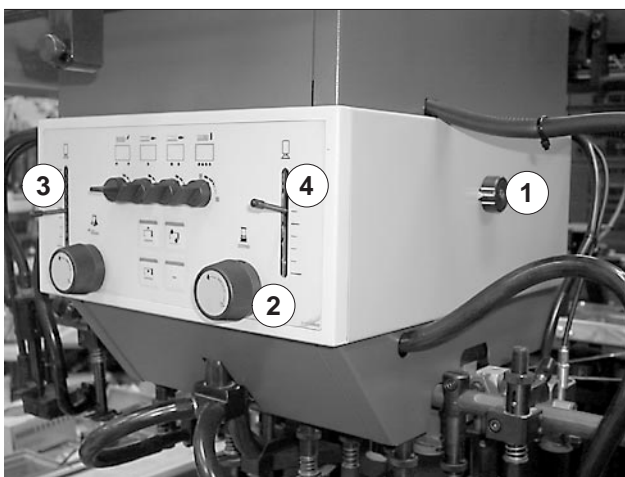

Fig. 23 Adjusting the lifting sucker
2. Adjust the height of the lifting suckers at the control knob (Fig. 23/2).
The height adjustment can be checked on the suction head indicators (Fig. 23/1). The marks show the upper, middle and lower end position of the lifting suckers.